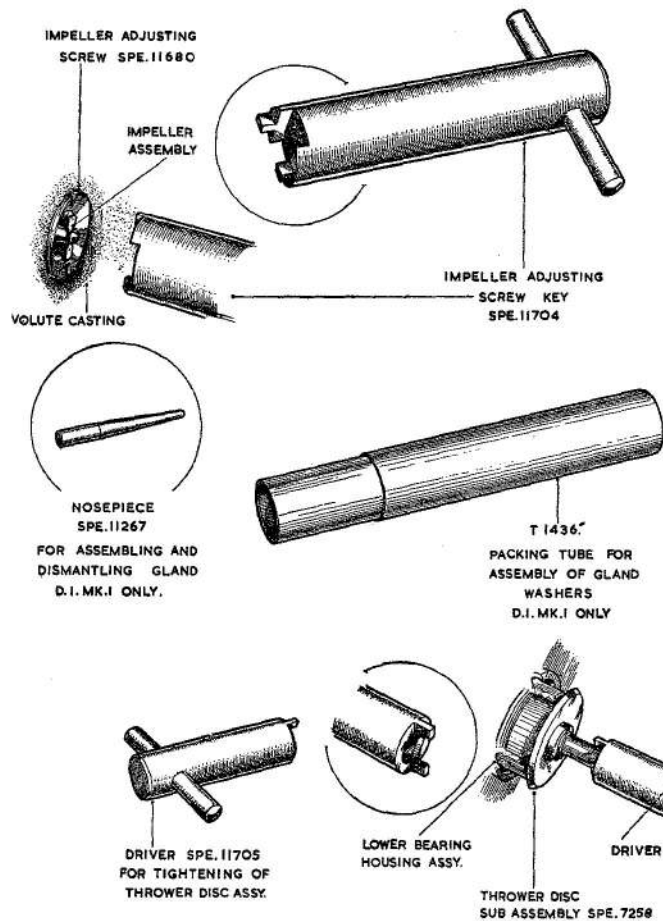
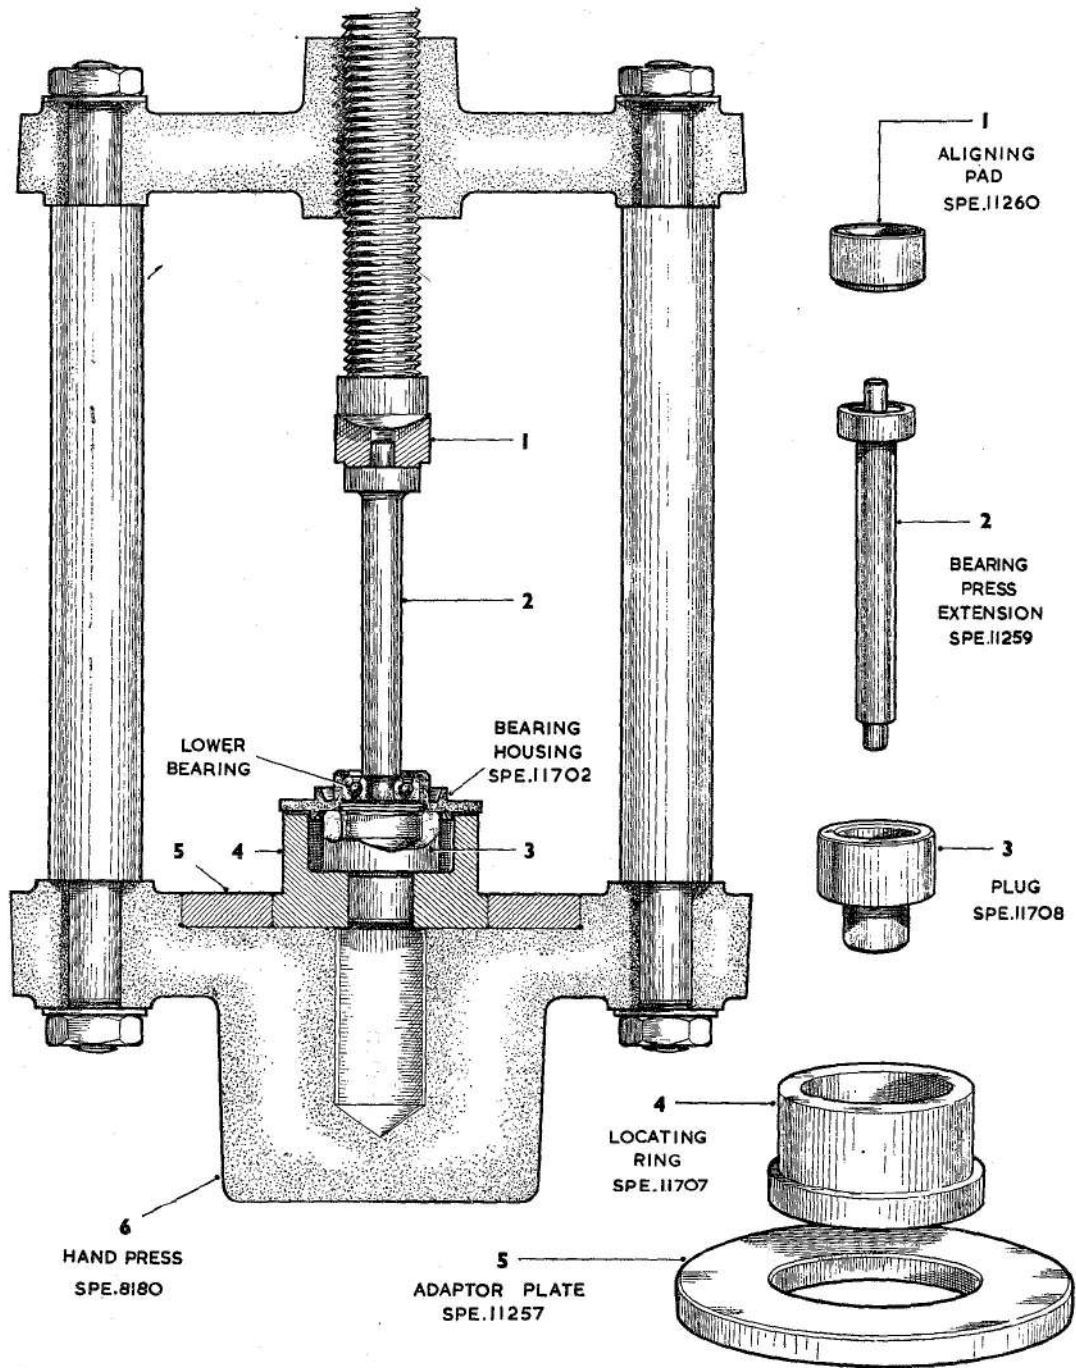

Fig. 1. Special hand tools
Fig. 3. Tools for removal of lower bearing
9. The vapour guide cone can be withdrawn by removing the two guide cone fixing screws and spring washers, access to which is made through the inlet end of the volute casting. Remove the impeller clearance adjusting screw, using key SPE.11704 (*fig. 1*).
10. Holding the commutator end spindle nut with a spanner, unscrew and remove the propeller fixing screw and its washer, together with the propeller. Strike the impeller a sharp blow in an anti-clockwise direction with a pencil or similar piece of wood and unscrew the impeller from the spindle. Screw on the nosepiece SPE.11267 (*fig. 1*), in place of the impeller.
13. Holding the fuel thrower disc with the special driver SPE.11705 (*fig. 1*) unscrew the spindle end nut and lift off the upper bearing dust shield.
16. Holding the armature, unscrew the fuel thrower disc, using the special driver SPE.17705 (*fig. 1*) and remove the lower bearing dust shield. With a hide or plastic faced hammer, tap the nosepiece SPE.11267 until the armature is free to be lifted from the lower bearing and its housing. Remove the bearing circlip from the bearing housing together with the bearing dust shield. The lower bearing can now be pressed out of its housing using the tools illustrated in *fig. 3*.
in its housing. Place the lower bearing dust shield on the armature spindle with the raised flange away from the bearing and screw on the thrower disc assembly, using the special driver SPE.11705 (*fig. 1*).